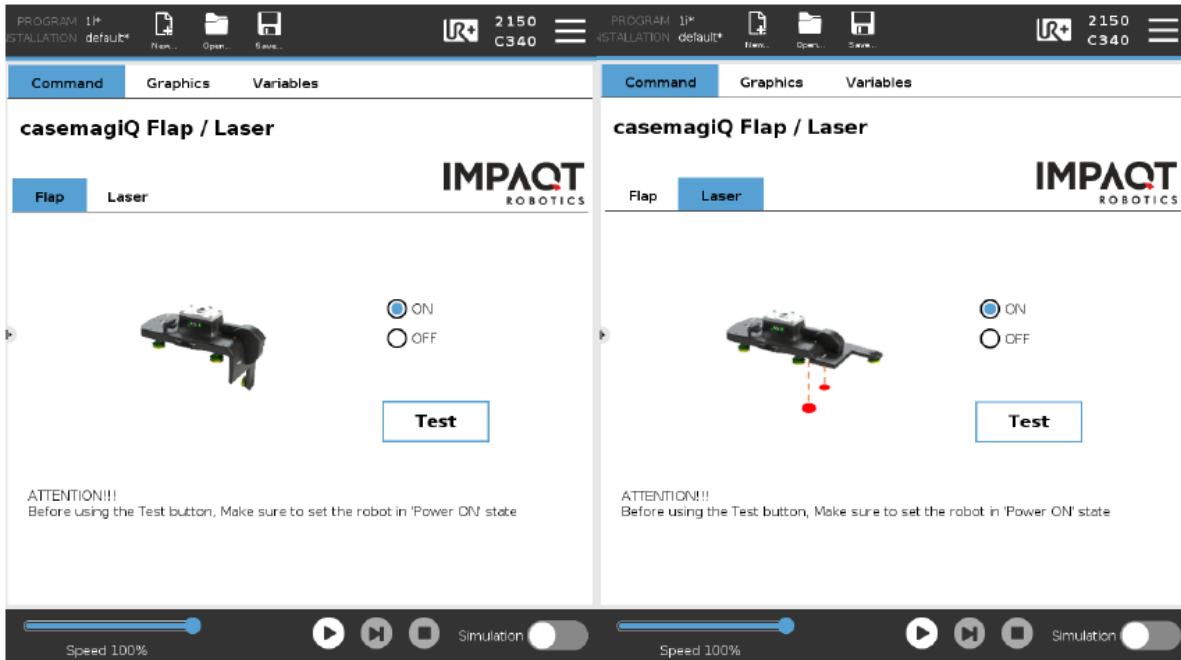

Figure 15: casemagiQ Flap / Laser node
- The casemagiQ Flap / Laser node is used to control the case forming flap and the laser aligner. As shown in Figure 15, the case forming flap can be switched on or off use this node. This is used to bend and shape the flat cases / cartons into an open cuboid ready for taping.